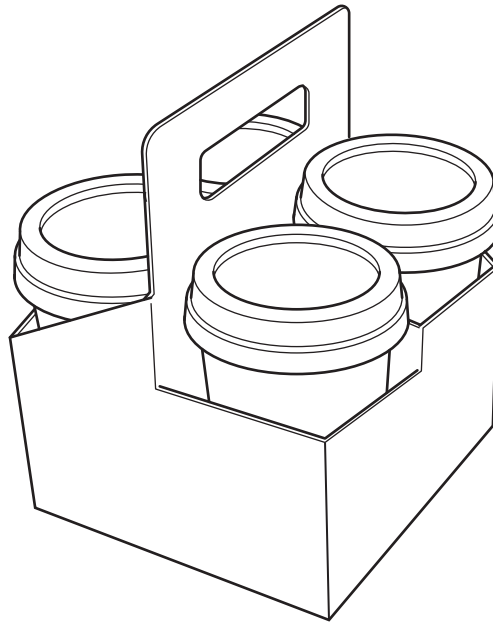

Fig. 4
Fig. 4 shows a carrier for hot drinks.
(a) Give **four** justified design requirements for a carrier of hot drinks of the type show in Fig. 4.
- (e) (i) State a **suitable specific material** for the hot drinks carrier shown in Fig. 4.